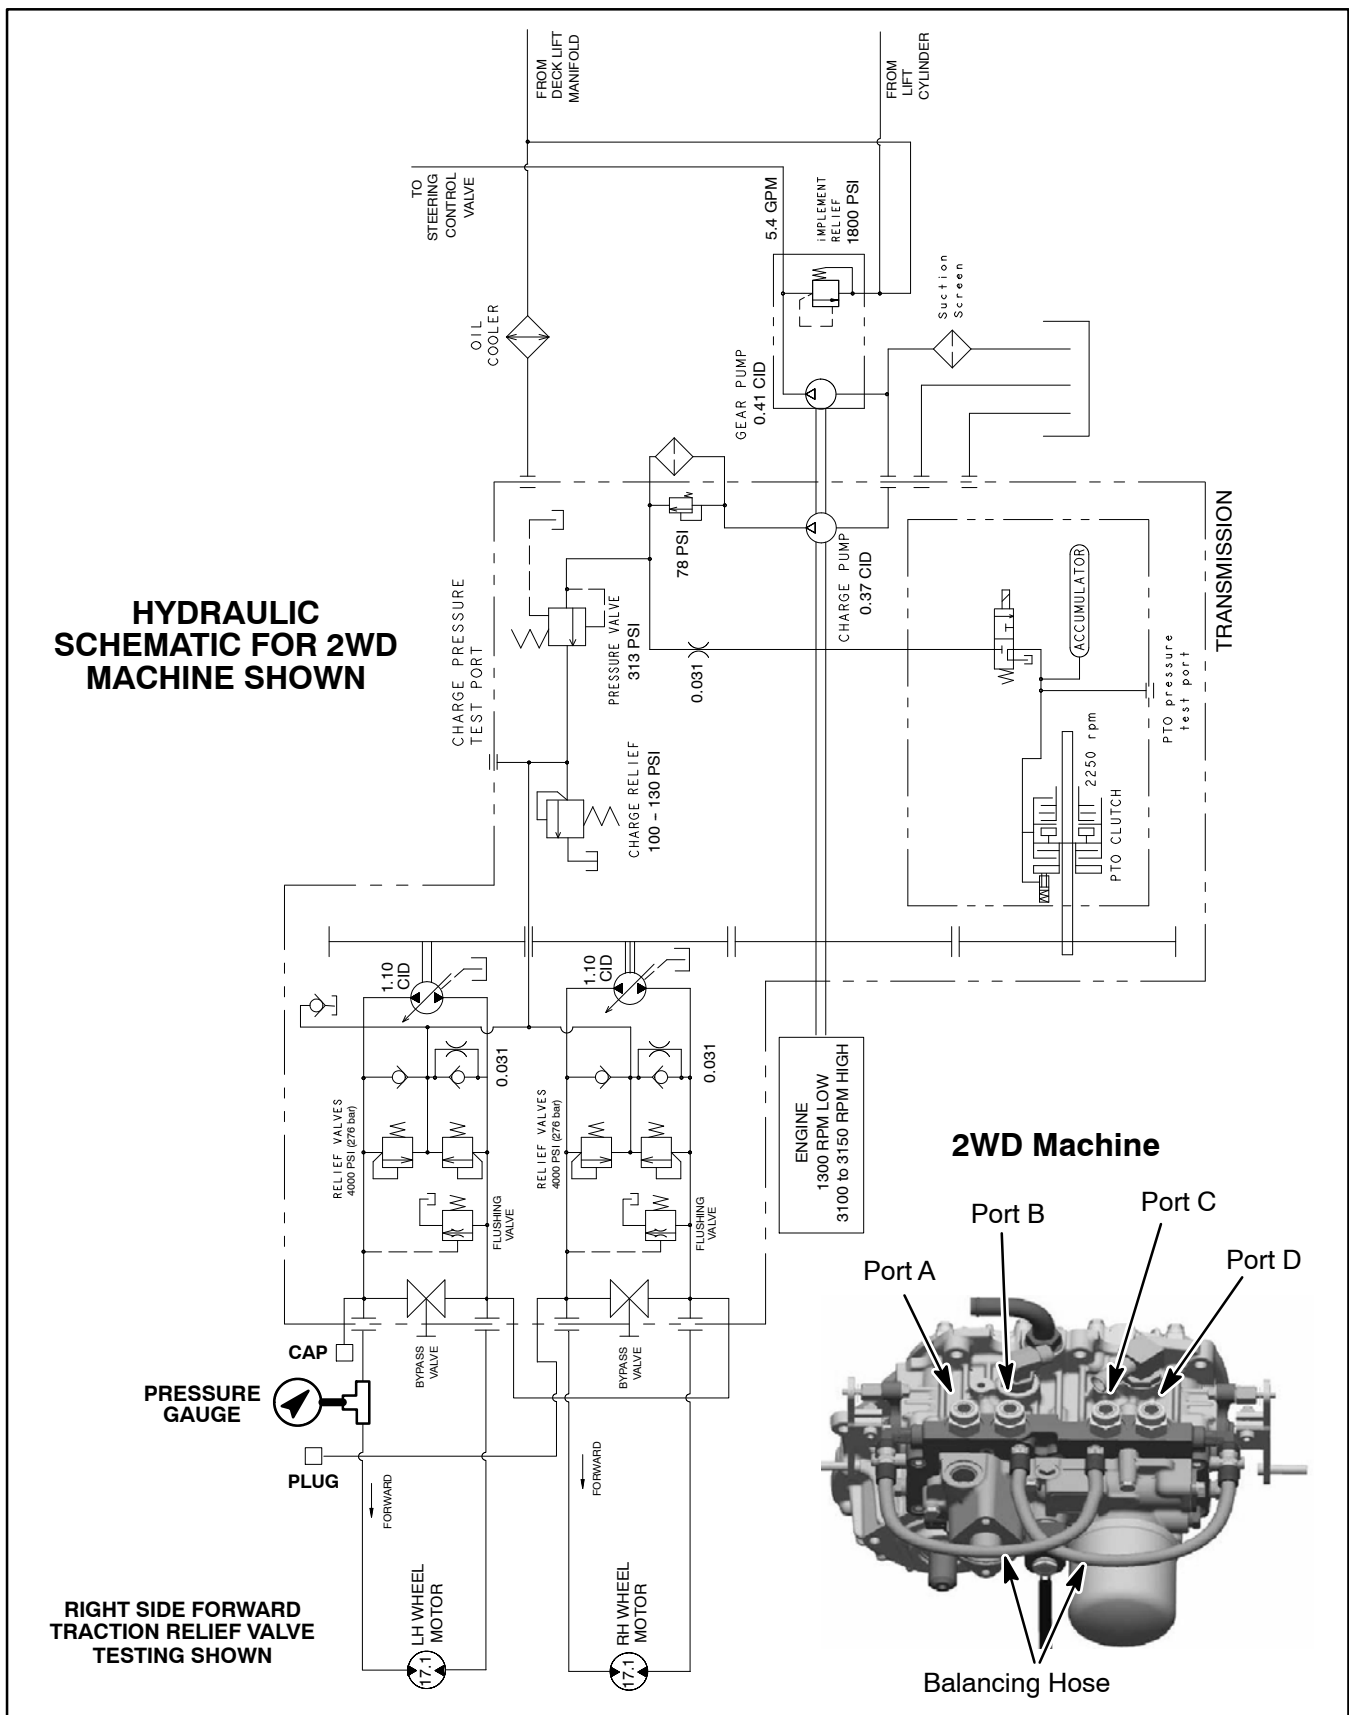

Figure 28
4. Thoroughly clean area surrounding traction circuit hoses on top of transmission (Fig. 28 or 29).
5. Determine which traction relief valve is to be tested. Disconnect hydraulic hose from transmission pump outlet fitting for relief valve to be tested (Fig. 28 or 29):
**NOTE:** Pump outlet ports are not identified on the pump housing. Use illustration in Figure 28 (2WD machine) or 29 4WD machine) to identify pump ports.
7. Disconnect balancing hose from transmission fitting closest to transmission pump outlet fitting for relief valve to be tested (Fig. 28 or 29). Install steel cap on fitting and steel plug in balancing hose.